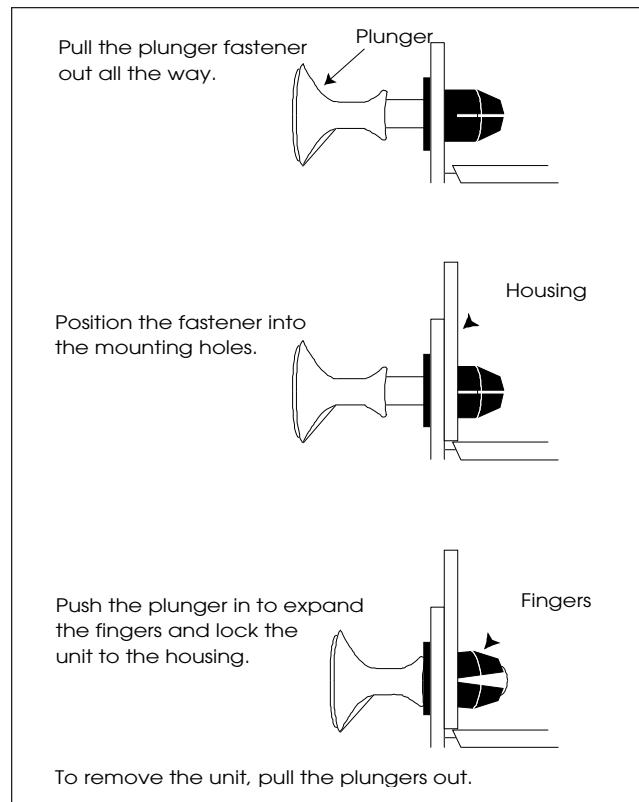

Figure 2
**4.2** Install the module (purchased separately) onto the bracket using the plungers (Figure 2).